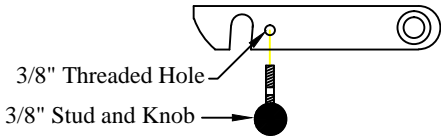

Figure 15: Original Series platform latch knob.
1. **Install** the two (2) knobs on the platform latches (Original Series only) see (Figure 15).